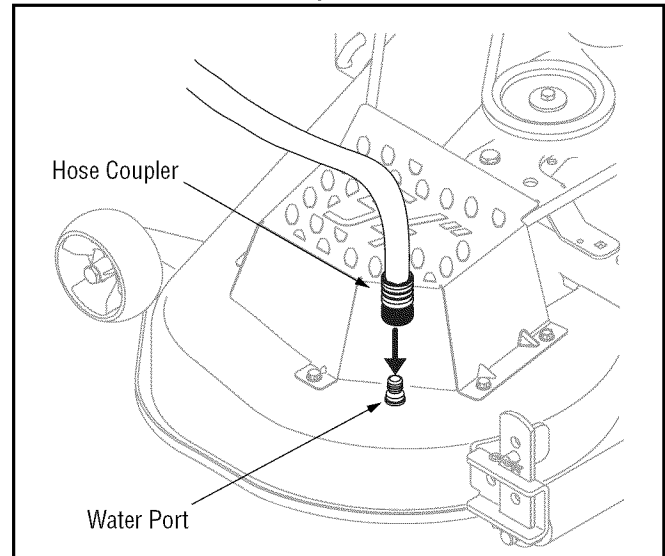

Figure 14
4. Attach the hose coupler to the water port on your decks surface. See Figure 14.